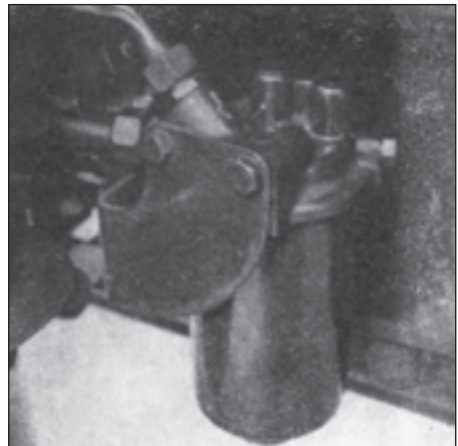

Fig. 174
40. Replace the filter elements of the hydraulic oil filter (Fig. 174).